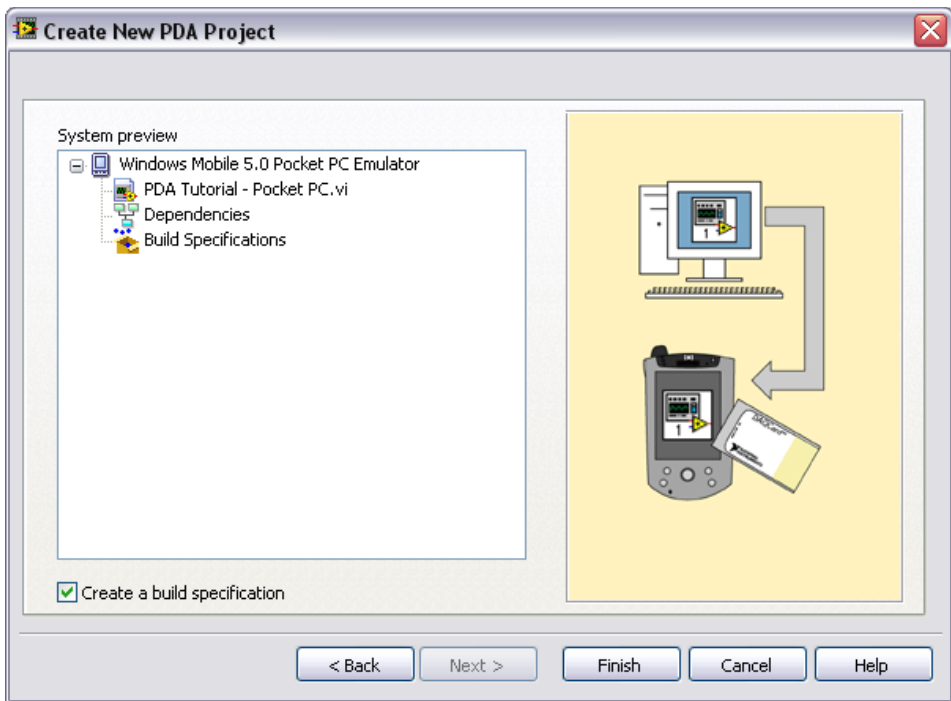

Figure 3. Previewing the Project
6. The **System preview** page, shown in Figure 3, shows a preview of the project the wizard creates when you click the **Finish** button. Notice the checkmark in the **Create a build specification** checkbox. This checkmark indicates you want to create a build specification immediately after you create the project. Refer to the Creating the PDA Build Specification section for more information about creating a build specification.
Because the **Create a build specification** checkbox contains a checkmark as shown in Figure 3, the **PDA Build Specification** dialog box opens when you click the **Finish** button.